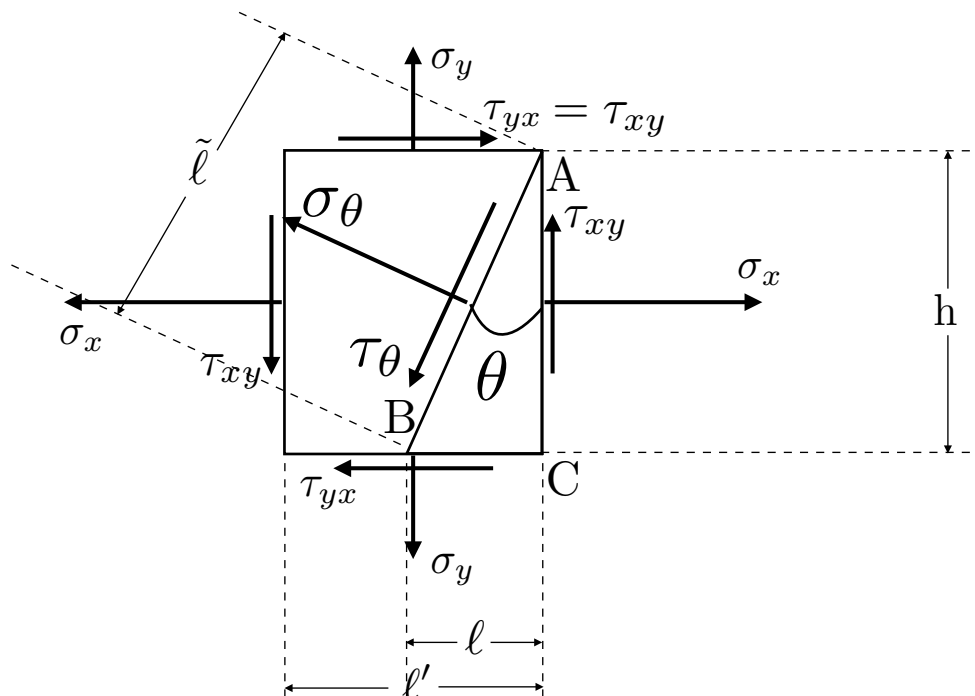

Figure 4: A 2-D Stress Element
5. Figure 4 shows a 2-D stress element.
- Derive expressions for the normal stress σ_θ and the shear stress τ_θ shown in Figure 4.